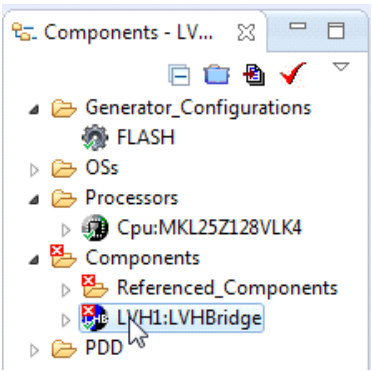

Figure 13. Select the component
2. Double click LVHBridge component in the **Components** window (see Figure 13) to show the configuration in the **Component Inspector** view.